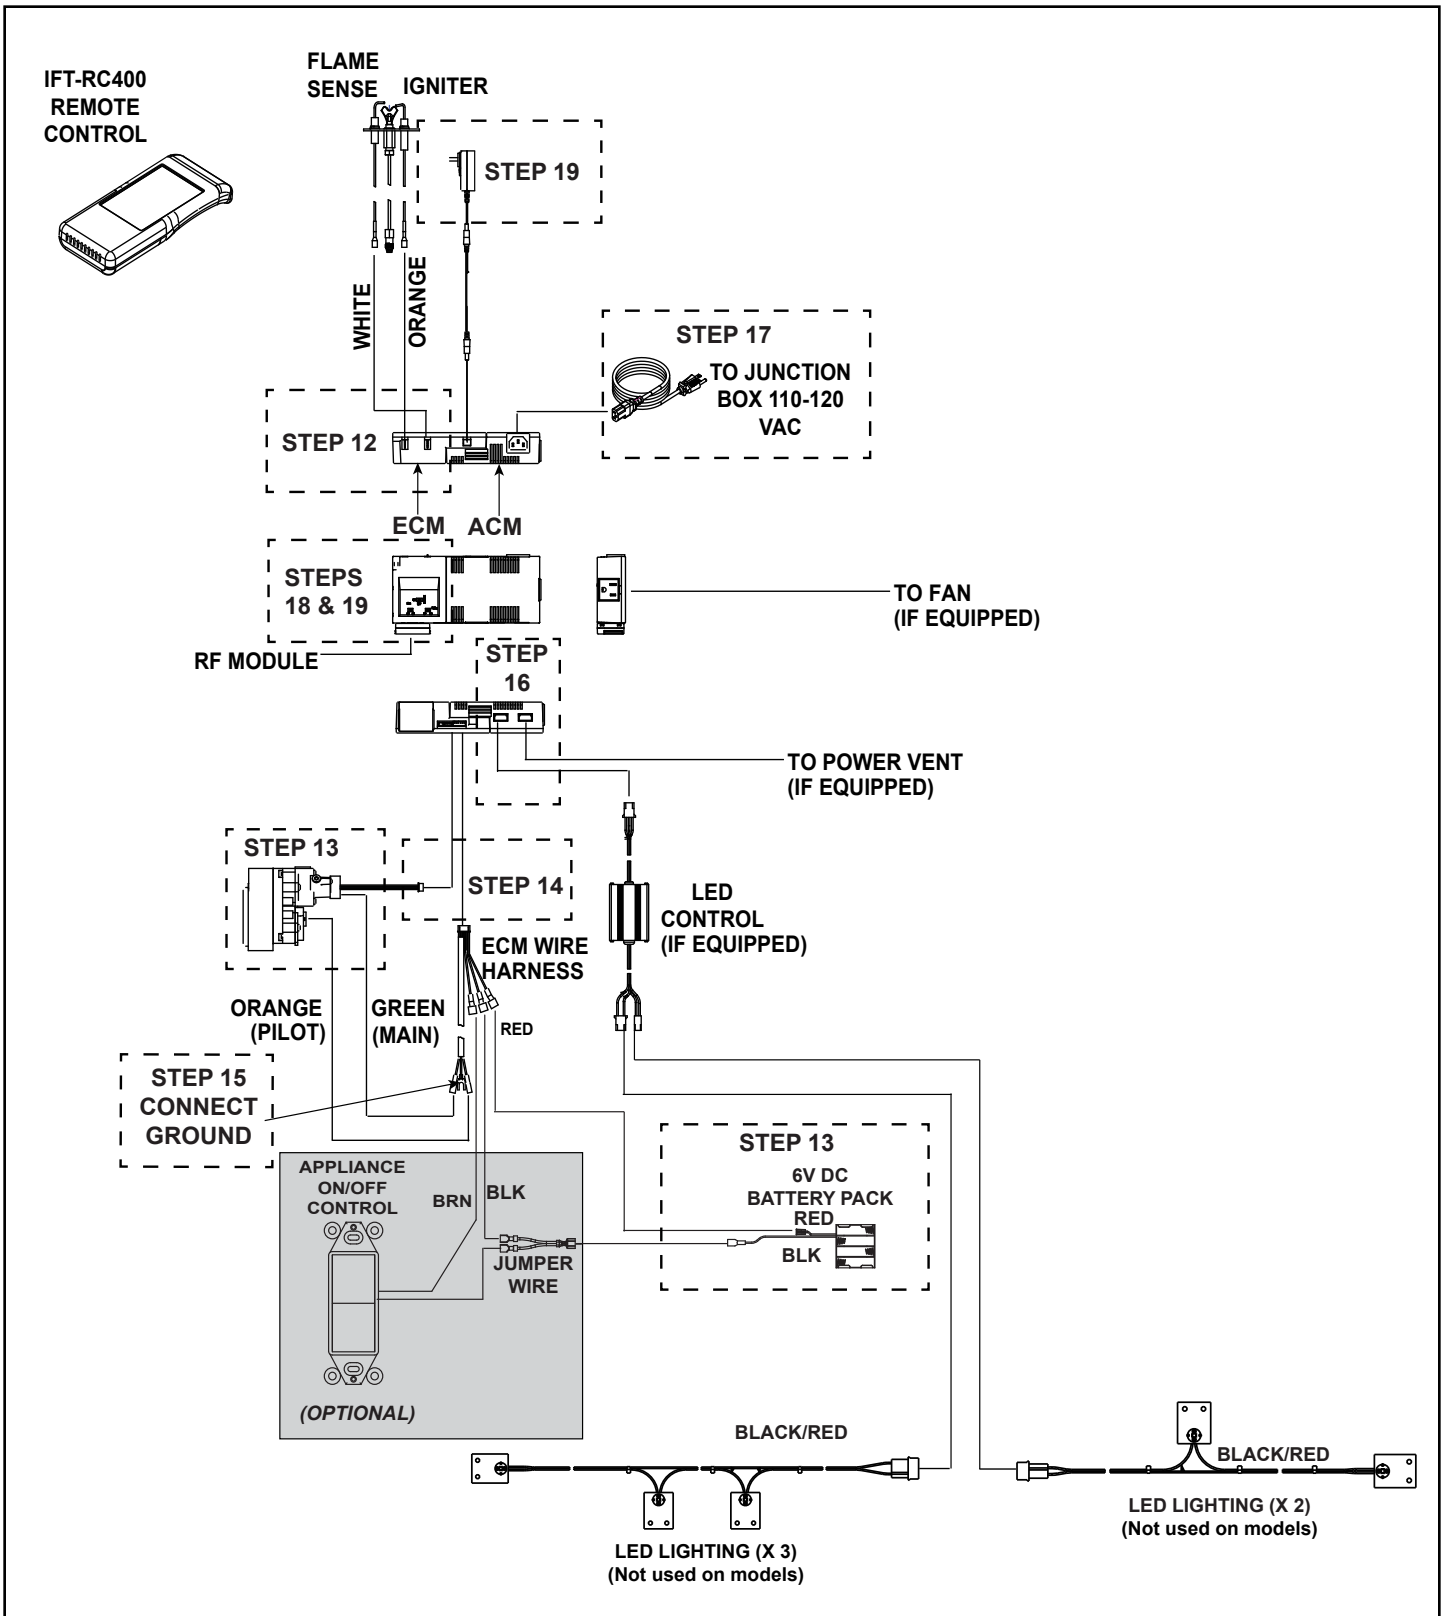

Figure 3. IntelliFire™ Touch Wiring With Remote
10. Dispose of all components removed in step 9. Do not install batteries in the RC400 remote at this time. Refer to Figure 3 for the reinstallation process of the controls.
11. Install the new IFT-ECM and IFT-ACM and associated wiring into the appliance. Note the location as shown in Figure 3.
12. Plug orange and white pilot wires on terminals as shown in Figure 3. The orange wire terminates to the “I” terminal, and the white wire terminates to the “S” terminal on the ECM.